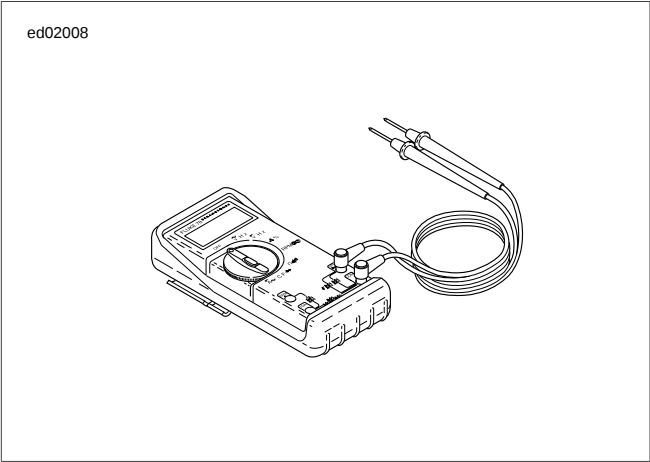

Figure 1-47. Digital Multimeter (Fluke 78)
1. See Figure 1-47. Connect DIGITAL MULTIMETER (FLUKE 78) (Part No. HD-39978) to wiring harness between the suspect connections. When diagnosing ECM connections, use BREAKOUT BOX (Part No. HD-50390-1), ECM